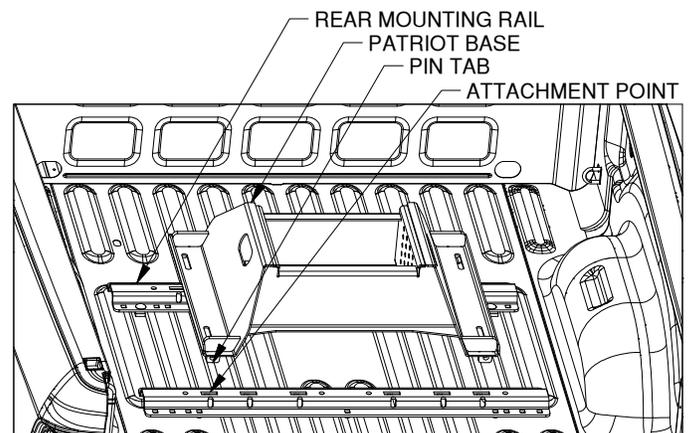

FIGURE C1: View into truck bed looking towards tailgate.
2. **Position the rear mounting rail.** For this step the base which will be used in the mounting rails is required. Place a mounting rail into the truck bed behind the forward mounting rail. Place the base over the rail attachment points and carefully lower it until the pin tabs pass through the attachment points on the forward mounting rail. Attach the rear mounting rail to the rear mounting points on the base. The base should rest flat against the top of the rails, See Figure C1. With the base still attached ensure that the rear rail is centered in the truck bed.